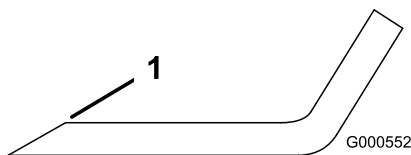

Figure 59
1. Use a file to sharpen the cutting edge at both ends of the blade (Figure 59).
**Note:** If the blade is not balanced, file some metal off the end of the sail area only (Figure 59).